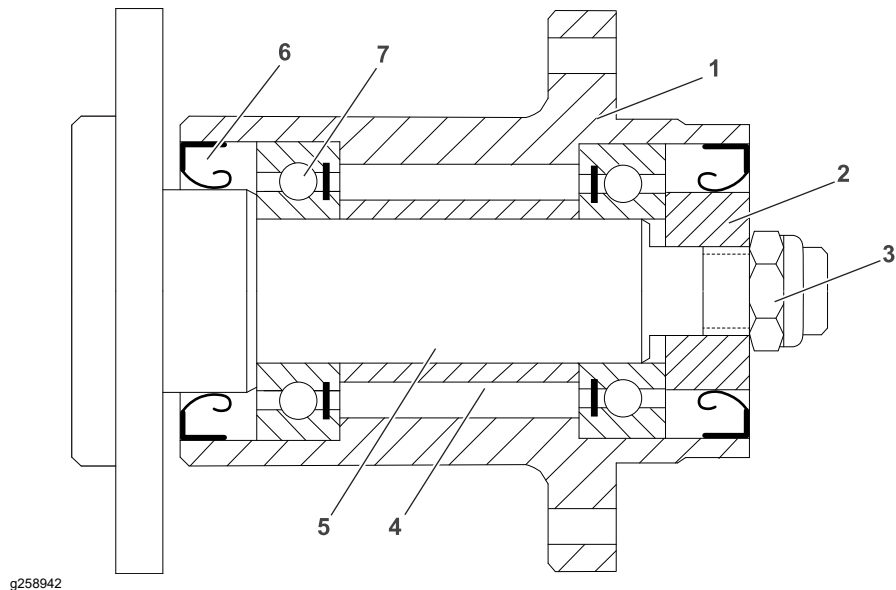

Figure 23
Note: The seal side of each bearing (item 7 in Figure 23) should face inside of the drum hub; refer to Figure 23.
1. Use a press to install the bearings (7) and spacer (8) into the drum hub (10). Pack the bearings with grease. Fill outside space of the bearing with the grease.
2. Apply a coat of grease to the seals (6). Press the seals (6) into the drum hub (1) with its flat side facing outside; refer to Figure 23.
3. Apply grease to the shaft of the drum spindle (5). Carefully slide the drum spindle into the drum hub bearings (7). Secure the drum spindle and drum hub (1) with a spacer (2) and locknut (3). Make sure that the drum spindle (5) can move axially relative to the drum hub (1).